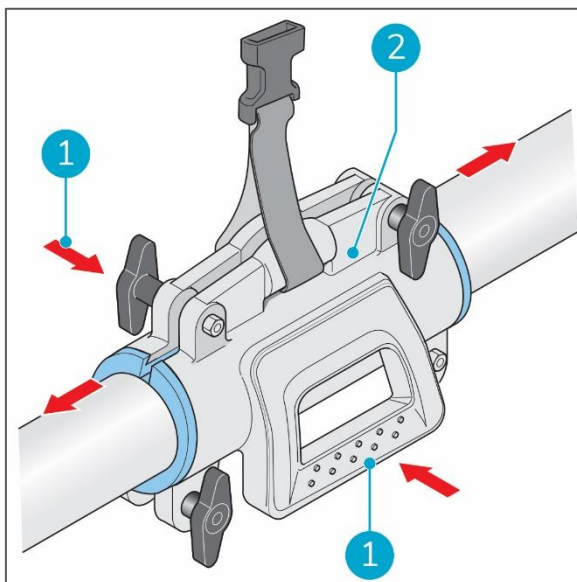

Figure 20
5. Close the carrier (Figure 20, pos. 2) around the rubber sleeve on the telescopic pole.
7. Hold both sides of the carrier (Figure 20, pos. 1) and move the carrier to the desired position on the power wash telescopic pole.